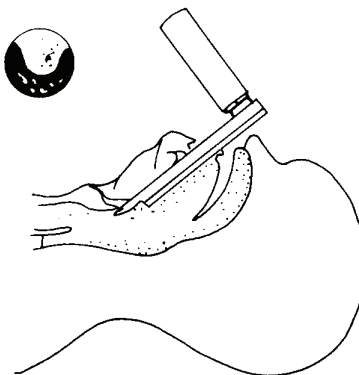

Figure 3-68. Miller blade
- (2) When using a Miller blade (straight), hook the blade tip under the epiglottis and pull up to fold back the epiglottis and expose the vocal cords. Refer to Figure 3-68.